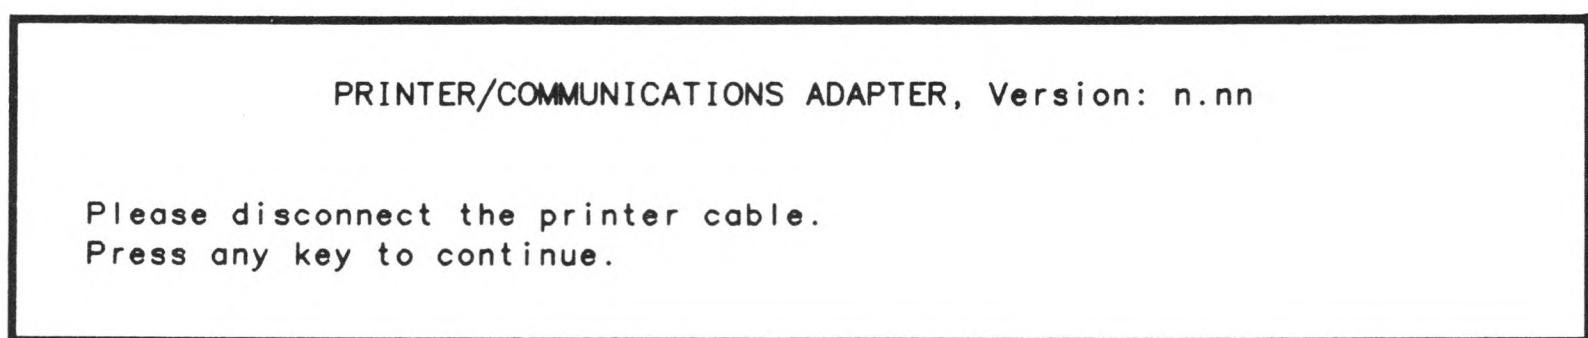

Figure 3-23. Port Test Screen
Step 3 Type 11 and then <Enter>. The screen in Figure 3-23 displays.